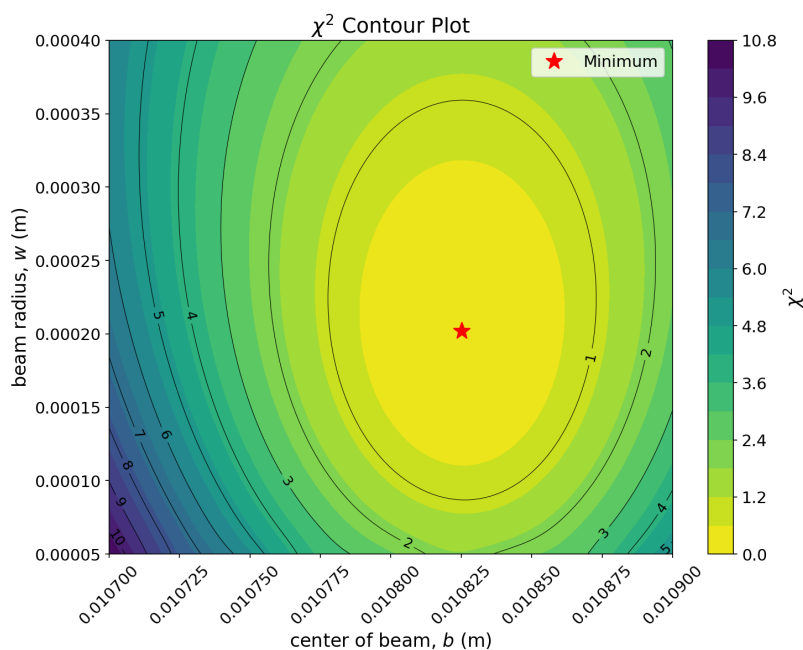

Figure 1: Example of a well-tuned χ^2 contour plot. Adjust your ranges until your plot clearly shows the minimum like this one.
6. Make a contour plot of $\chi^2(w, b)$ and tweak the plot range until you see the minimum (see Figure 1 for an example of what a well-tuned plot looks like). You can use AI assistance or the code below. The goal is to *interpret* the result, not to write the code from scratch.